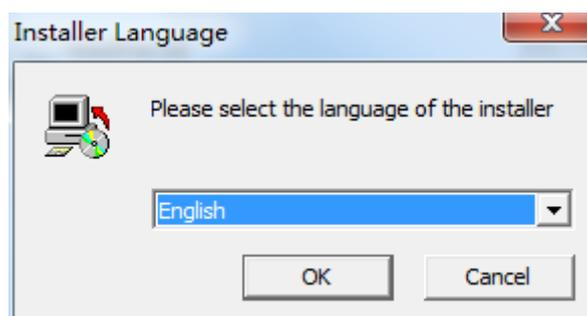

Figure 5-1
(1) Run the installation file of SmartEditor-x.x.x.x.exe to start installation. The installation interface is shown in the following figure 5-1.